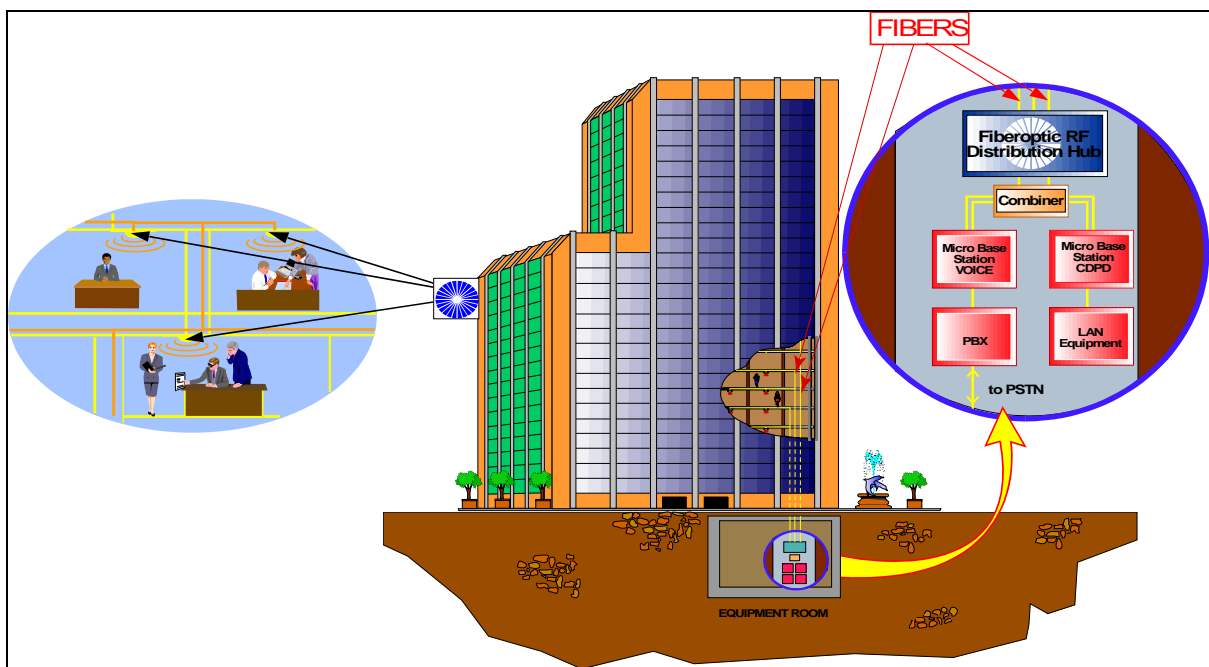

Figure 1. Typical EkoLink II Application.
- Figure 1: Typical EkoLink II Application
EkoLink II system would be a multi-floor building such as the one depicted in Figure 1. In buildings of this type it is common to find equipment rooms for Heating, Ventilation and Air-Conditioning (HVAC) and other utilities such as data networking and telephony equipment.
The fibers typically emanate from a source point (small base station) in the building. These fibers run from that source point, piping the signal to many locations throughout the building as shown in Figure 1.